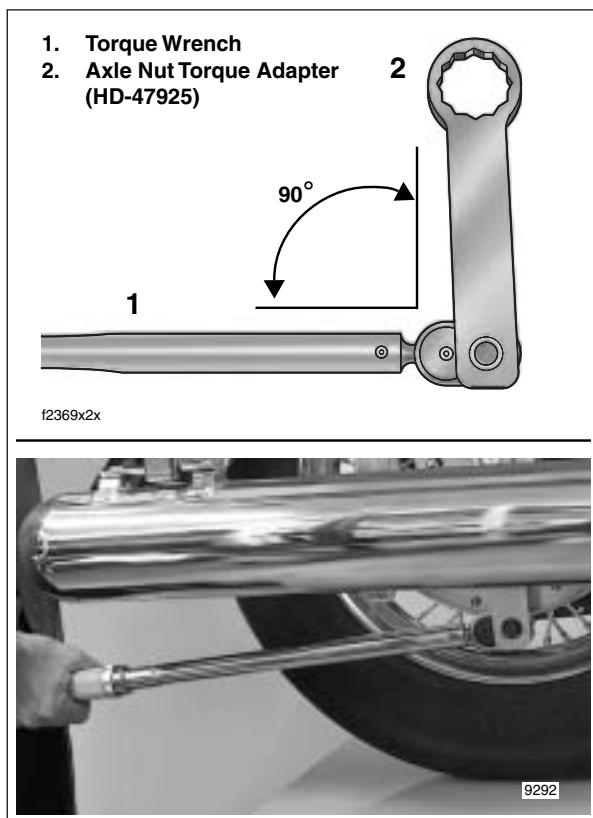

Figure 1-15. Install Tool Perpendicular to Torque Wrench
- a. Install torque adapter perpendicular to torque wrench as shown in Figure 1-15.